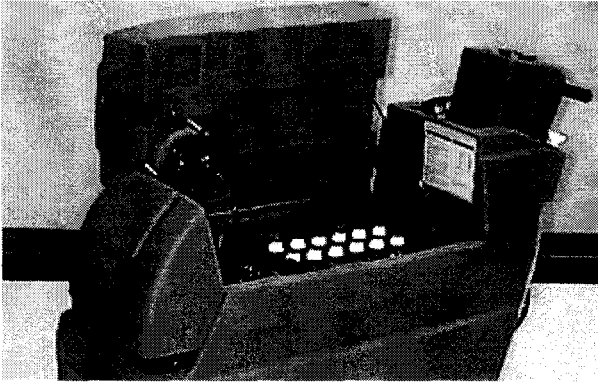

FIG. 22
- Hinge open recovery tank to access batteries (Figure 22).